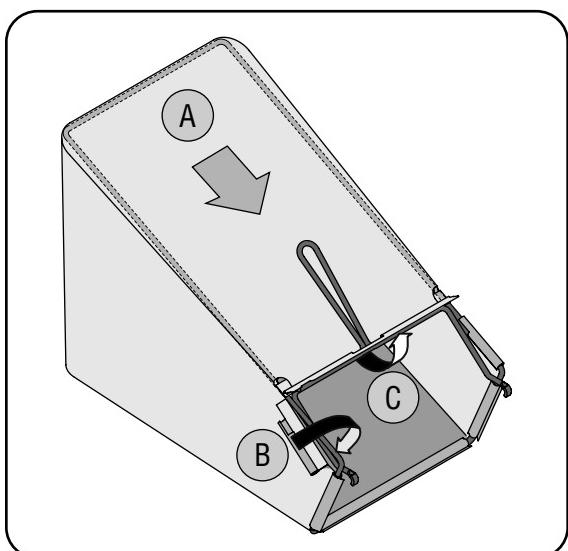

Figure 3-4
b. Slip plastic channel of grass bag over hooks on the frame. See Figure 3-4. All plastic channels except center top of bag attach from outside of bag.